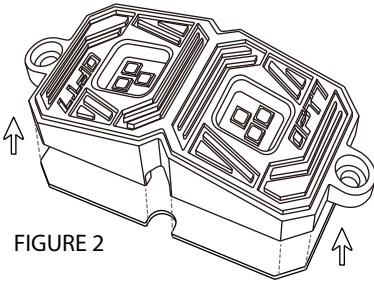

FIGURE 2
- OPTION 2 Use "VHB Double-Sided Adhesive" for mounting as shown in Fig. 2